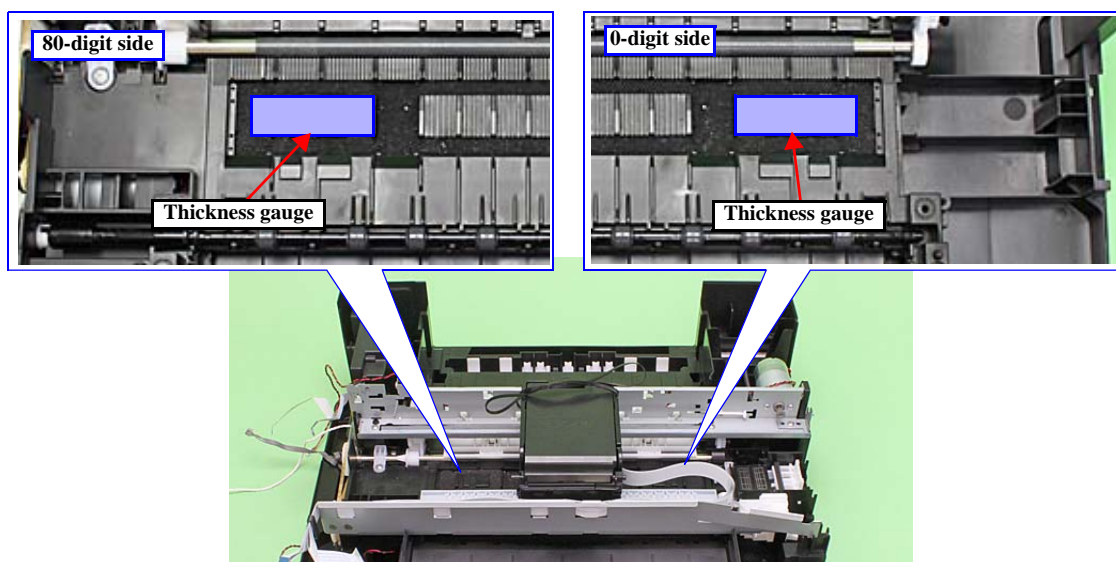

Figure 2-4. Position of the Thickness Gauge
2. Place the thickness gauges (1.5 mm) on the positions shown in Figure 2-4.